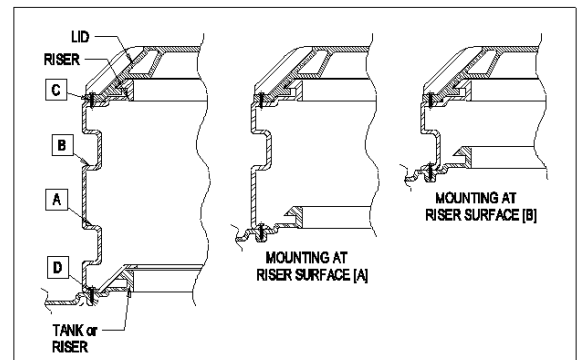

Figure 9.
1. Apply appropriate sealant to sealing surface(s). [Figure 9]
1. Apply appropriate sealant to sealing surface(s) [+], [Figure 9]